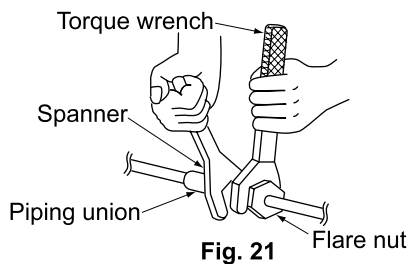

Fig. 21
- Be sure to use both a spanner and torque wrench together, when connecting or disconnecting pipes to/from the unit. (Refer to Fig. 21)